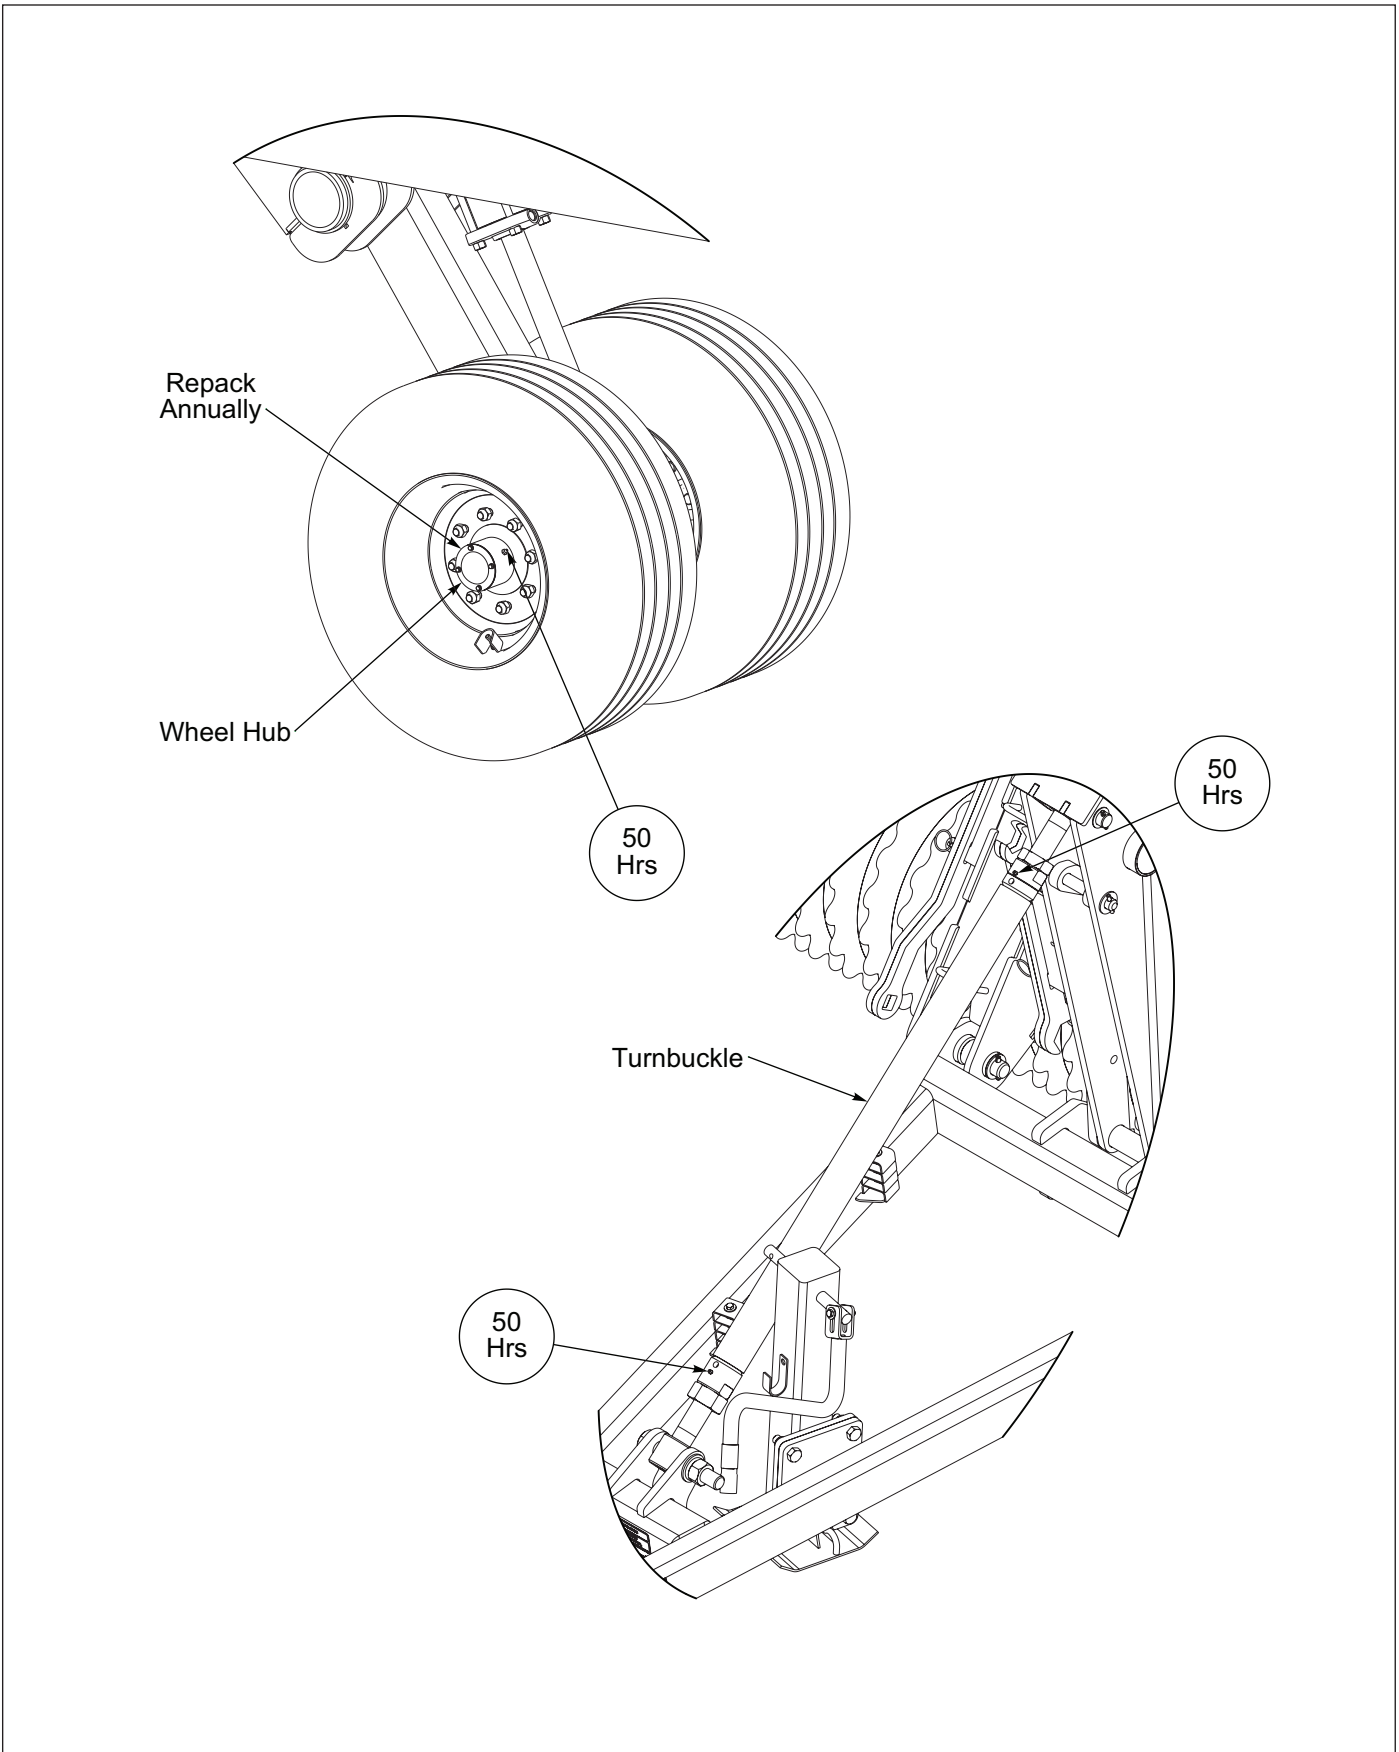

Figure 4-2: Lubrication Points and Intervals
- Grease Turnbuckle every 50 hrs or yearly to prevent seizure. **See Figure 4-2.**
- Grease Wheels Hubs every 50 hrs. **See Figure 4-2.**